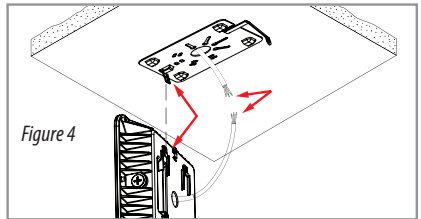

Figure 4
4. Buckle the connecting plate into the clips and let it hang to connect the wires as shown. (Figure 4)